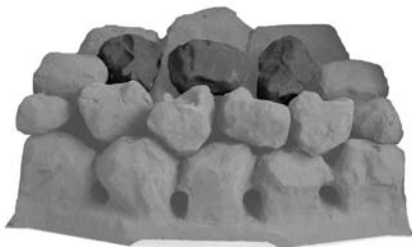

Fig. 23
6. Choose three loose coals and place them in line on the next row up, again making sure all the gaps are even. It is important that the coals 'bridge' the peaks of the fuel bed and are not placed in between. This helps the flow of burnt gases and should give an even glowing fuel bed (Fig. 23).